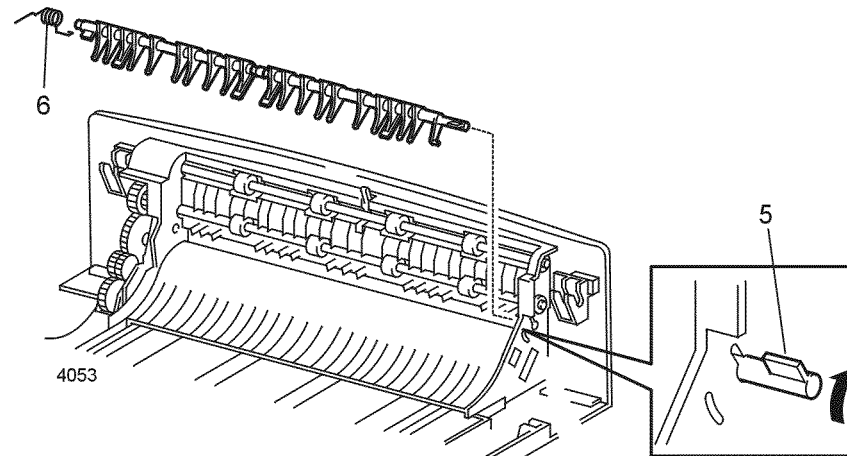

Figure 3 Exit Gate
5. Align the tab on the Gate with the hole in the Rear Cover. Remove the chute (Figure 3).
6. Remove the spring from the chute (Figure 3).